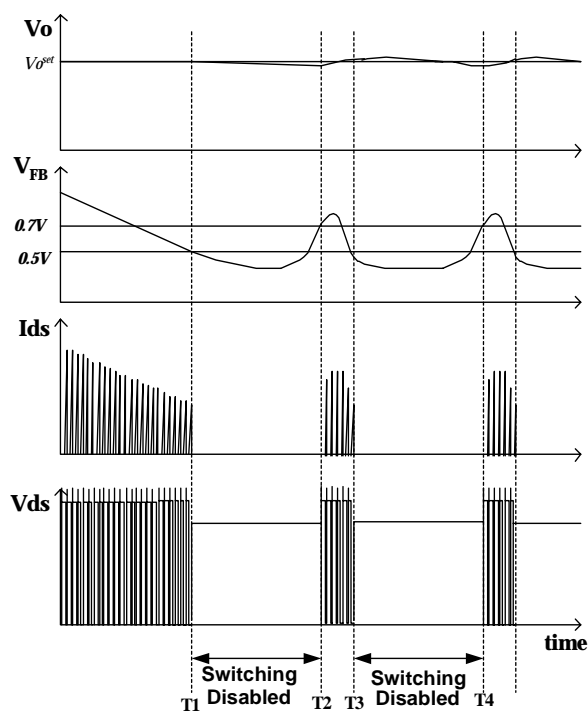

Figure 8. Waveforms of Burst Operation
5. Burst Operation: To minimize power dissipation in standby mode, the FSDM0465RB enters burst mode operation. As the load decreases, the feedback voltage decreases. As shown in Figure 8, the device automatically enters burst mode when the feedback voltage drops below $V_{BURL}(500\text{mV})$. At this point switching stops and the output voltages start to drop at a rate dependent on the standby current load. This causes the feedback voltage to rise. Once it passes $V_{BURH}(700\text{mV})$, switching resumes. The feedback voltage then falls and the process repeats. Burst mode operation alternately enables and disables switching of the power SenseFET thereby reducing switching loss in Standby mode.